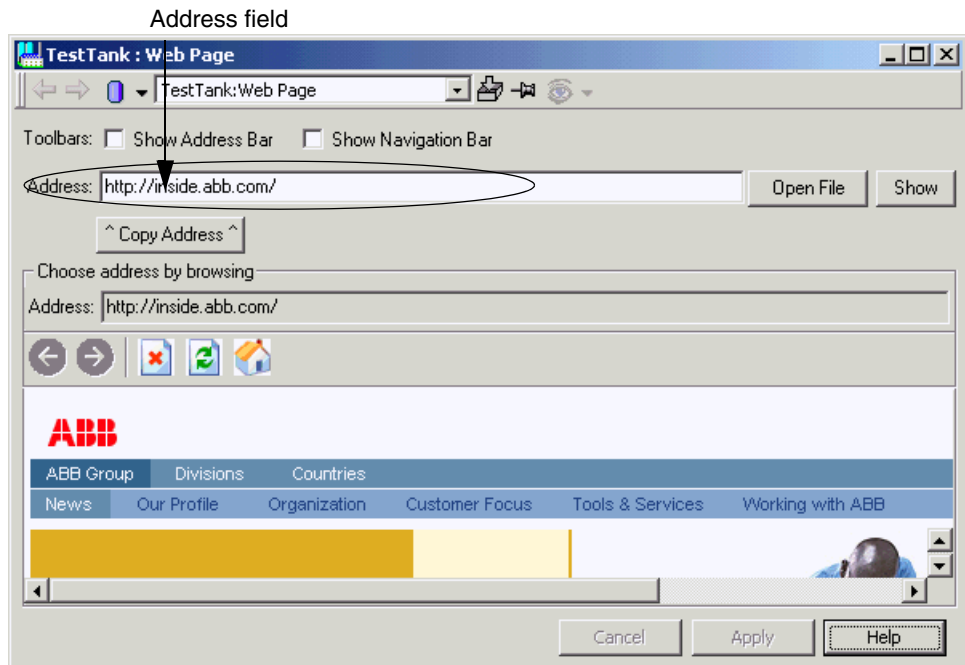

Figure 237. The Web Page Aspect in the Config View
2. Open the Config View of the Web Page aspect. See Figure 237.